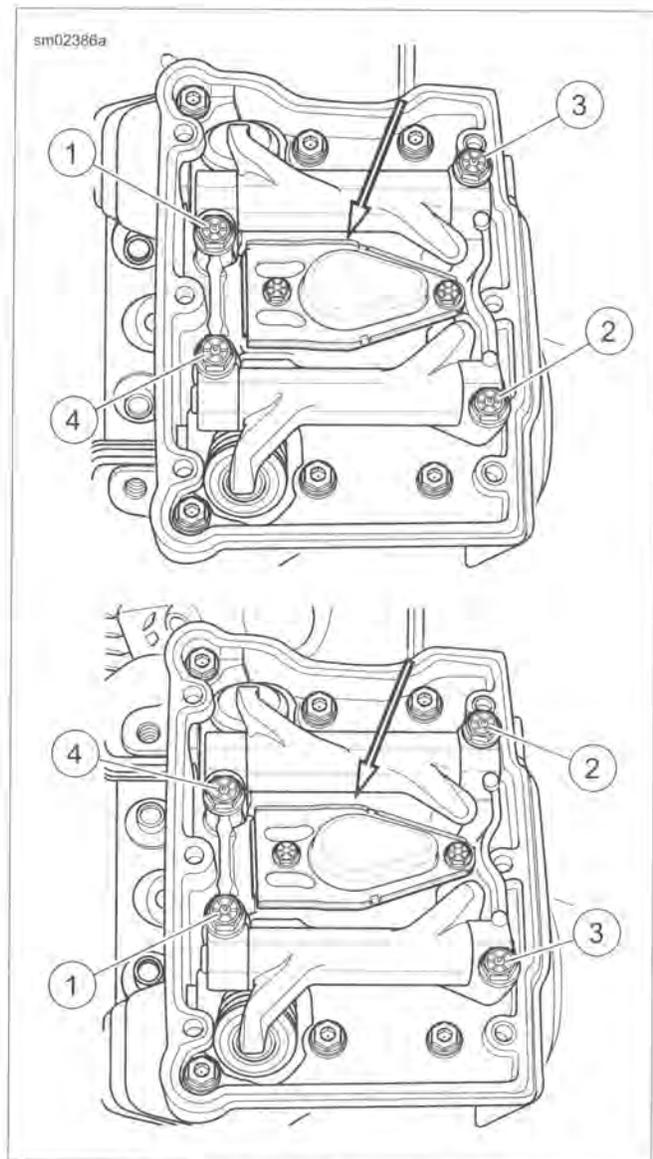

Figure 3-82. Rocker Arm Support Screw Sequence
2. See Figure 3-82. Place the rocker arm support plate assembly into the rocker housing and loosely install four rocker arm support plate bolts with flat washers.